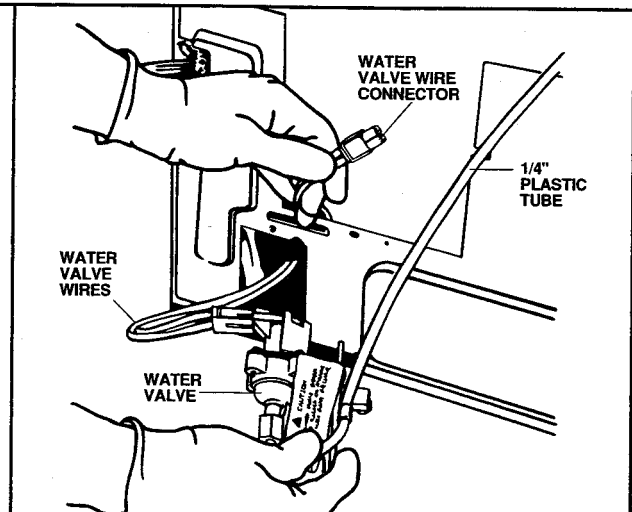

Figure 22
- c. Thread the water valve wires through the rectangular opening, as shown in Figure 22, taking care not to bend any existing tubes.